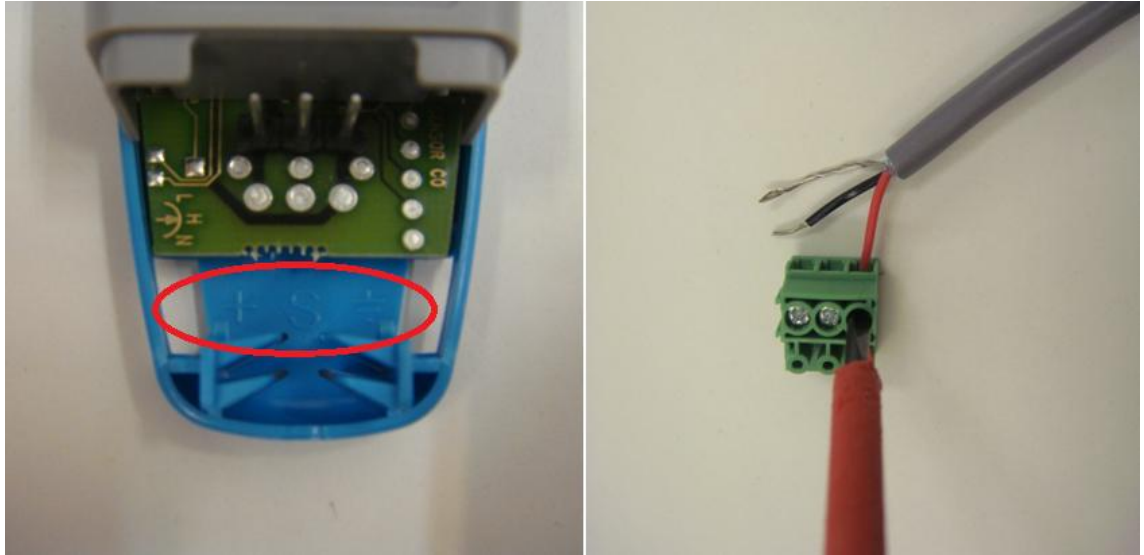

Figure 4.7
2) Before connecting the cable to connector, make sure that the connecting order is right (+ , signal , shield). The appropriate pins information is shown on the blue bottom part of the sensor. Plug the wires into connector and fasten them by using the screw driver. (See Figure 4.7)